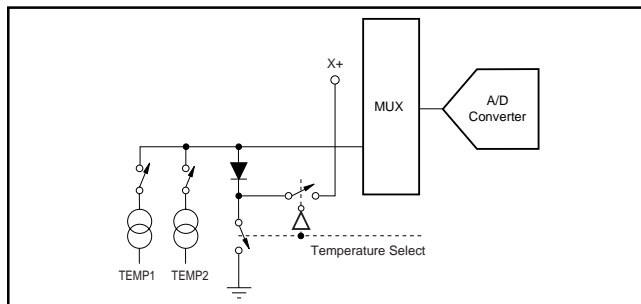
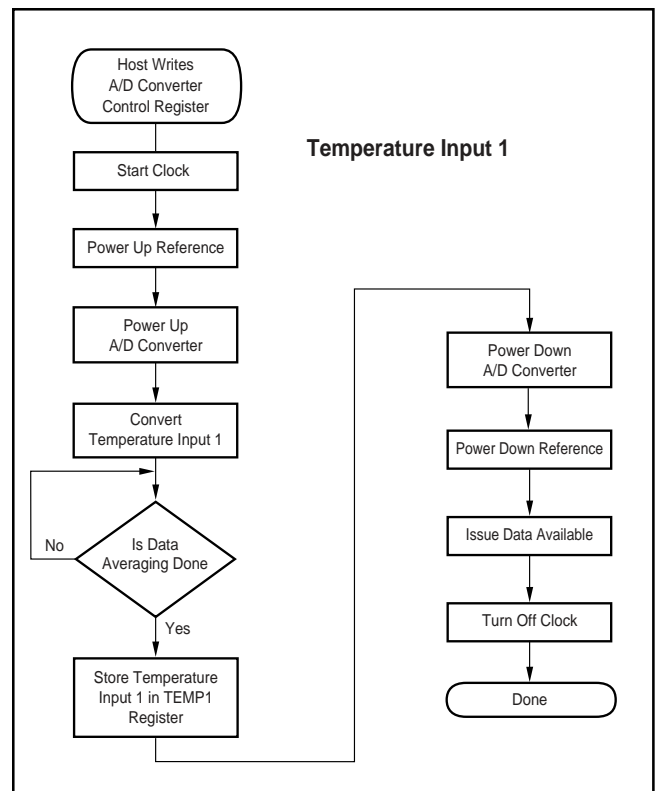

FIGURE 18. Functional Block Diagram of Temperature Measurement Mode.
FIGURE 19. Single Temperature Measurement Mode.
The TSC2000 offers two modes of temperature measurement. The first mode requires calibration at a known temperature, but only requires a single reading to predict the ambient temperature. A diode, as shown in Figure 18, is used during this measurement cycle. This voltage is typically 600mV at +25°C with a 20µA current through it. The absolute value of this diode voltage can vary a few millivolts; the temperature coefficient (TC) of this voltage is very consistent at $-2.1\text{mV}/^\circ\text{C}$. During the final test of the end product, the diode voltage would be stored at a known room temperature, in system memory, for calibration purposes by the user. The result is an equivalent temperature measurement resolution of $0.3^\circ\text{C}/\text{LSB}$. This measurement of what is referred to as Temperature 1 is illustrated in Figure 19.